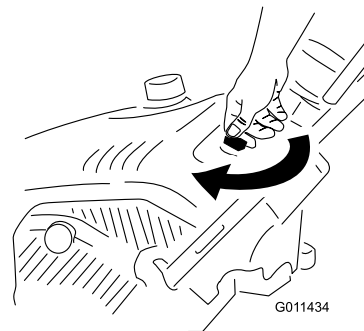

Figure 13
1. Turn the ignition key clockwise to the On position (Figure 13).